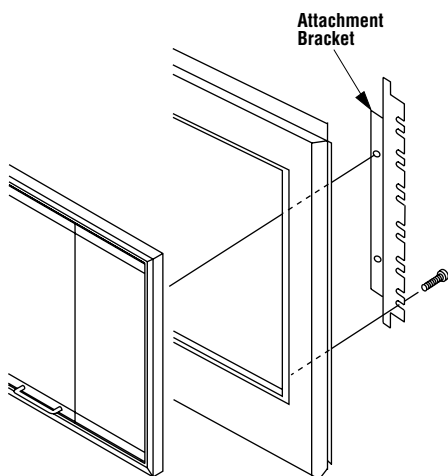

Figure 2
**Step 1.** Lay the frame face down on a clean, soft surface to avoid scratching the brass. Note the two Phillips Screws mounted to Tinnerman nuts on each of the side panels, loosen these screws to allow adjustment of the position of these Tinnerman nuts. Position the nuts to align with the round holes on the Estate 48 attachment brackets (see Figure 2). **Do Not attach brackets to the door at this time.**